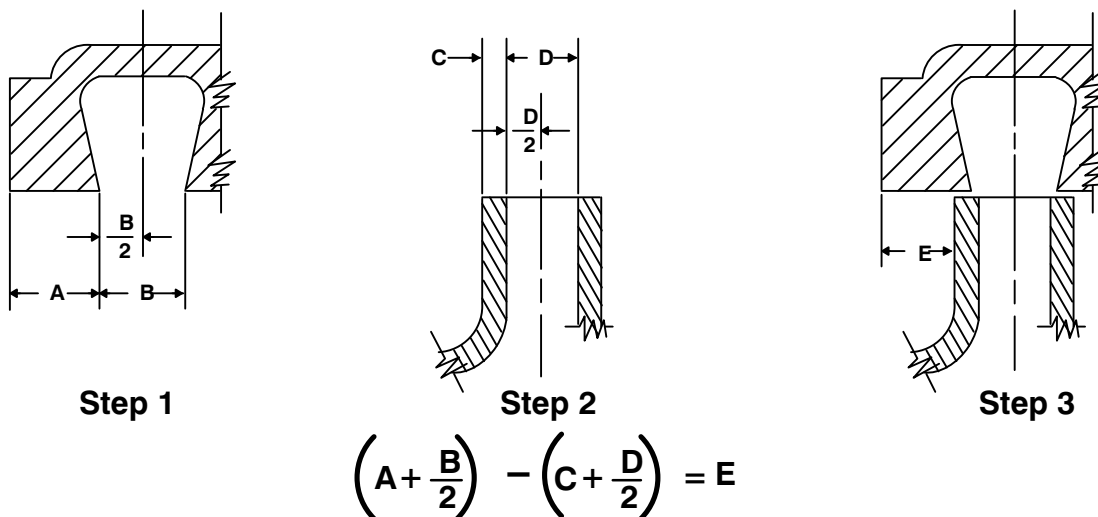

Figure 3. Centering Impeller Within Pump Casing
For maximum pump efficiency, the impeller should be centered within the pump casing. To verify impeller positioning, measure the pump casing and impeller as shown in Figure 3. Use these measurements to calculate the required impeller location (dimension E). Add or remove gaskets in the pump casing gasket set (4) to obtain dimension E.